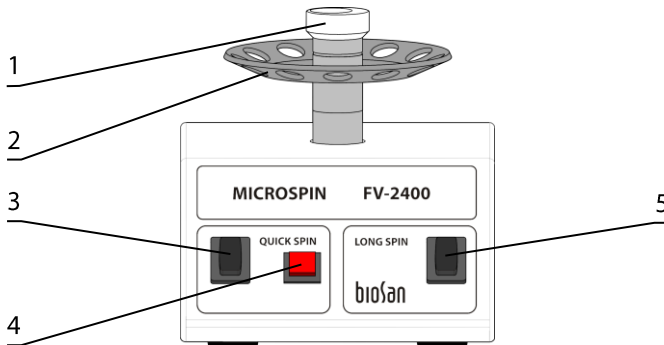

Figure 1. FV-2400
4.4.1. **FV-2400 & FVL-2400N.** To change a rotor (fig. 1/2 or 2/3), hold it with one hand and turn the vortex head (fig. 1/1 or 2/2) counter clockwise to set rotor free. Change the rotor and secure the vortex head.
- 5.1.2. **Operation in the quick centrifugation mode.** Insert tubes in the rotor sockets, maintaining balance. Switch the **QUICK SPIN** switch (fig. 1/3) into position **I** (on). Press and hold the red key (fig. 1/4) for quick mixing. After releasing the key, the rotor stops automatically. Switch the **QUICK SPIN** switch into position **O** (off) and remove the tubes.
- 5.1.3. **Operation in the vortexing mode.** Empty the rotor. Switch the **QUICK SPIN** switch into position **I**. While gently holding the tube, press the bottom part of the tube in the vortex head cavity (fig. 1/1). Press and hold the red key for vortexing. After releasing the key, the rotor stops automatically. Switch the **QUICK SPIN** switch into position **O**.
- 5.1.4. **Operation in the long centrifugation mode.** Insert tubes in the rotor sockets, maintaining balance. Switch the **LONG SPIN** switch (fig. 1/5) into position **I** (on). The rotor starts the movement. Switch the **LONG SPIN** switch into position **O** (off), wait until the rotor stops and remove the tubes.